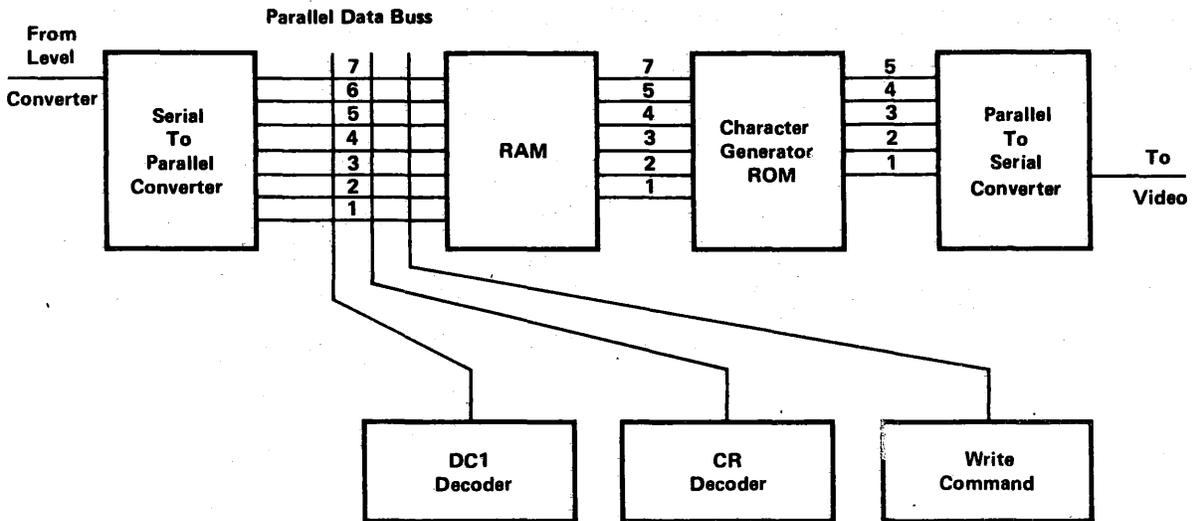

Figure 3-4. Data Converter Signal Flow Block Diagram
3.12 Terminal logic serial to parallel conversion, figure 3-4, depicts the flow of data through the logical portion of the terminal. When the mark detector senses a Mark, the serial-to-parallel converter is enabled to accept data from the level